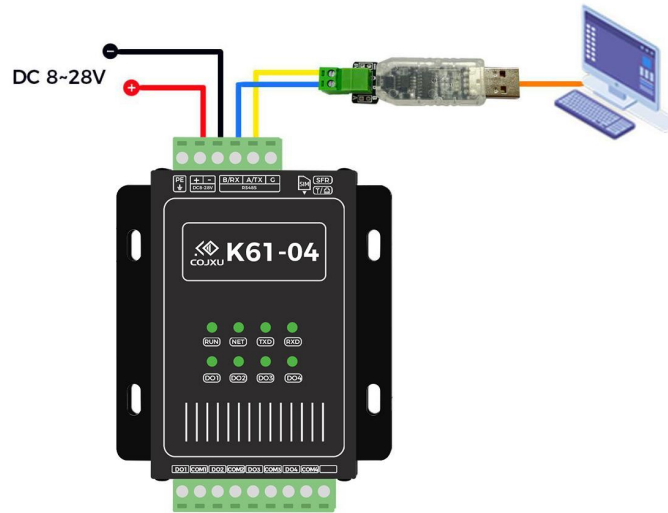

Figure 4-7 Schematic diagram of power supply and RS485 hardware wiring
(1) Wiring connection: Connect the product hardware to the power supply and the "USB to RS485" tool, and connect the "USB to RS485" tool to the computer USB, as shown in Figure 4-7 below.